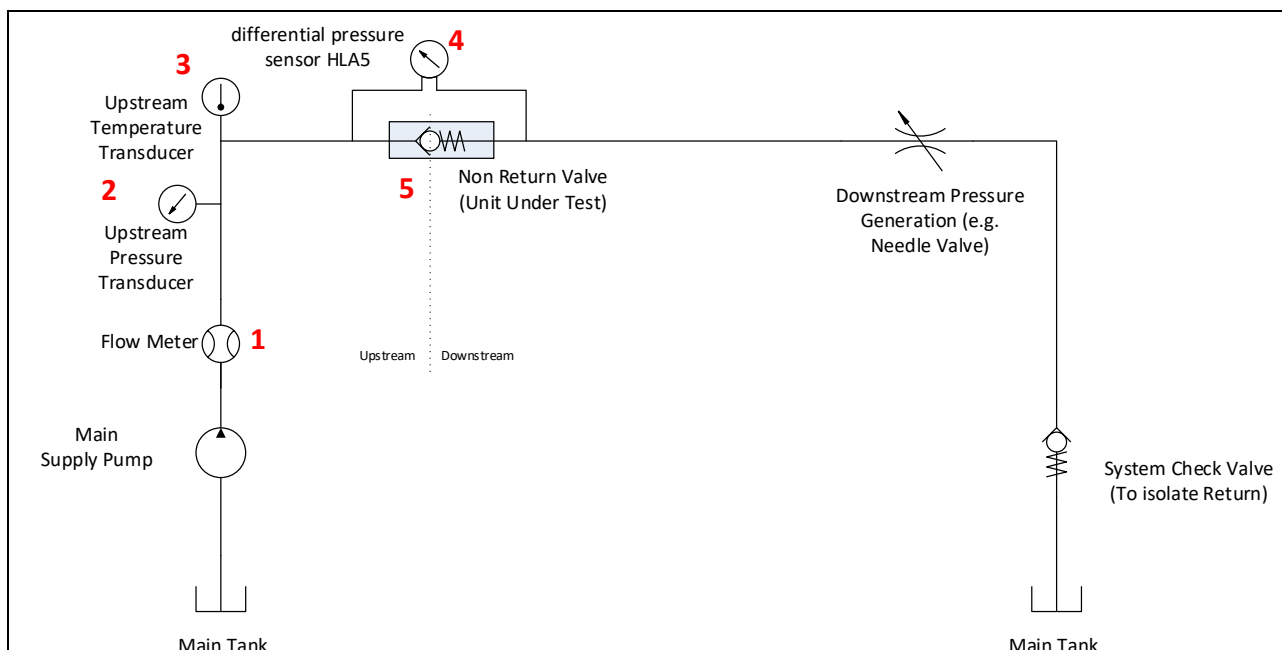

Figure 13: test setup Test Title 3 - 3(4)
(4) Pressure Drop at Rated Flow
- Test set-up in accordance to Figure 13.